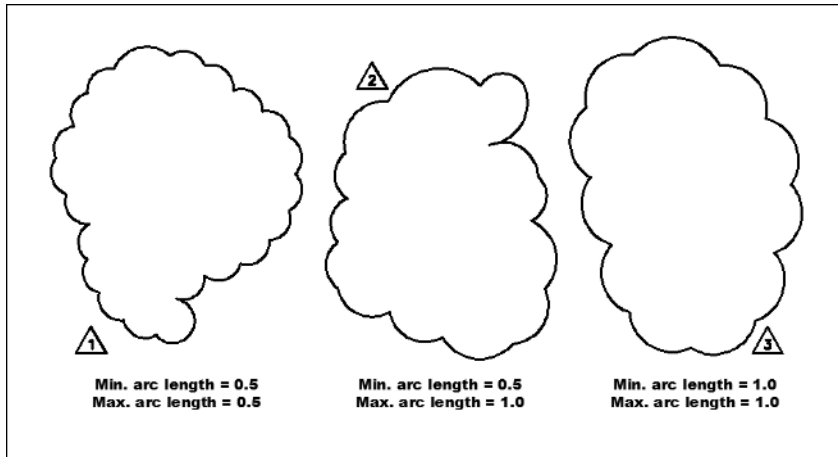

Figure 6-11:
The following command line example shows you how to draw a revision cloud. Figure 6-11 shows what revision clouds look like.
- ✓ You may need to add a triangle and number, as shown in Figure 6-11, to indicate the revision number. A block with an attribute is a good way to handle this requirement: Chapter 14 covers blocks and attributes.